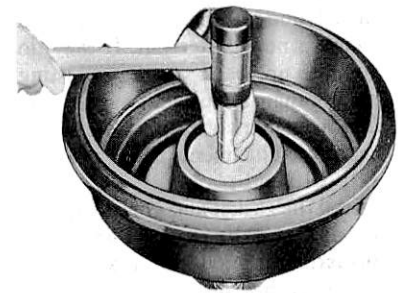

FIG. 2 Installing Grease Retainer
8. Place the inner bearing cone and roller in the inner cup and install the grease retainer (Fig. 2) with the appropriate driving tool. Be sure that the retainer is fully bottomed. Install the hub and drum on the wheel spindle. **Keep the hub centered on the spindle to prevent damage to the grease retainer or the spindle threads.**